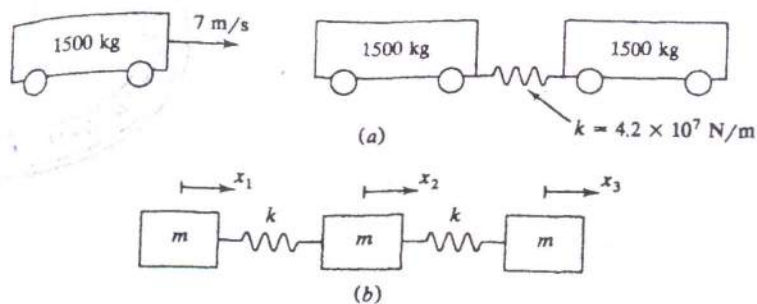

Fig. 3
5. A railroad car of mass 1500 kg is to be coupled to an assembly of two precoupled identical railroad cars. The couplers are elastic connections of stiffness  $4.2 \times 10^7$  N/m. The single car is rolled toward the other cars with a velocity of 7 m/s. Describe the motion of the three railroad cars after coupling is achieved. Hint – After coupling, the motion of the three railroad cars is modeled by using three degrees of freedom, as shown in Fig. 3.